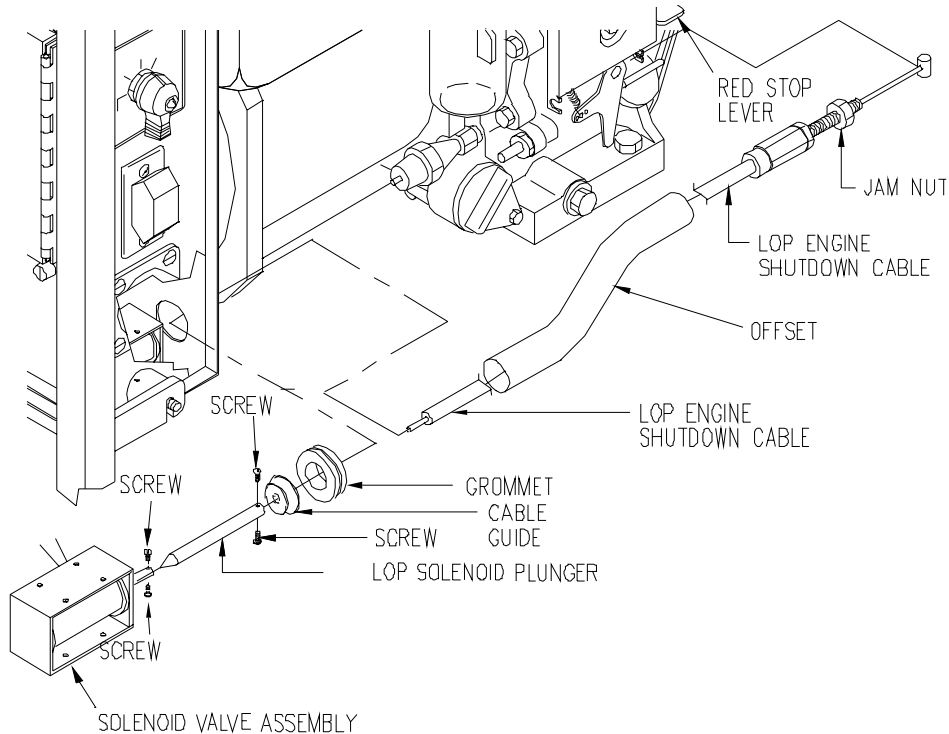
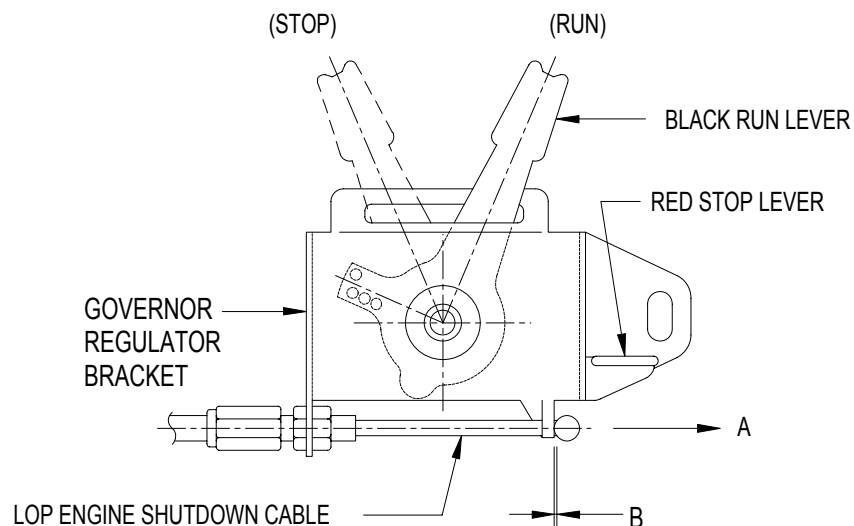
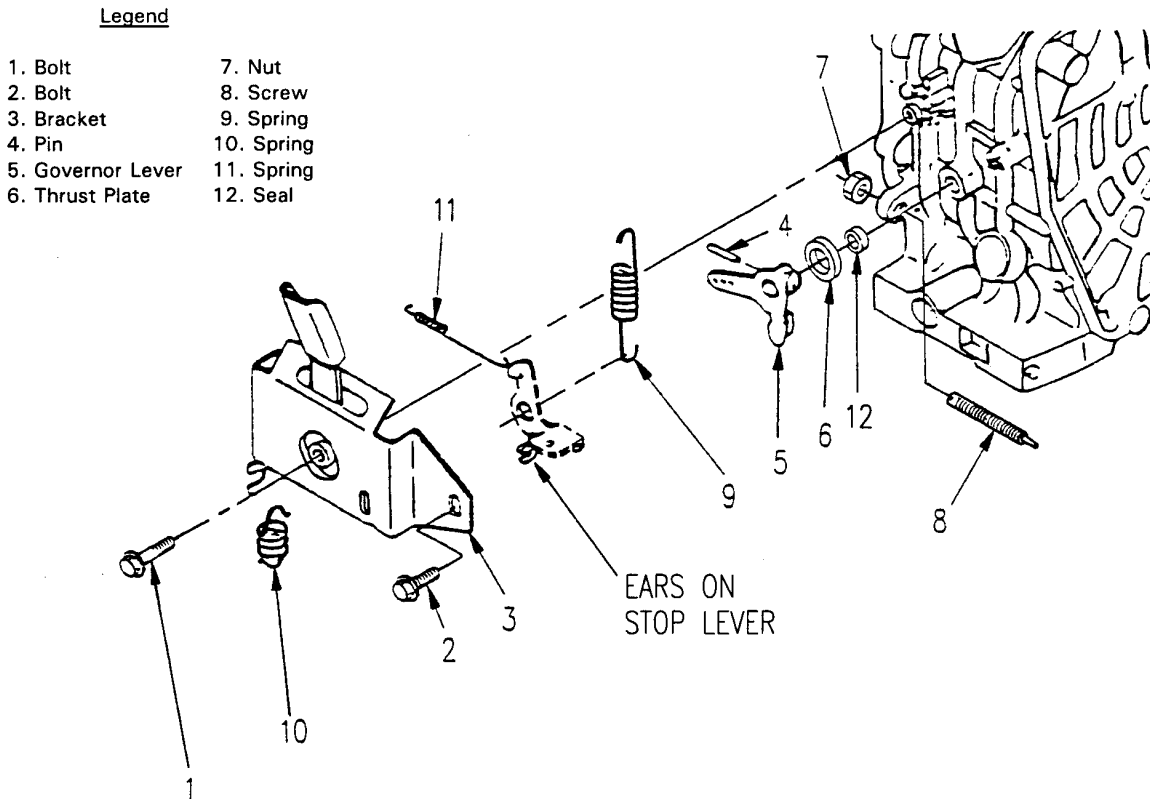
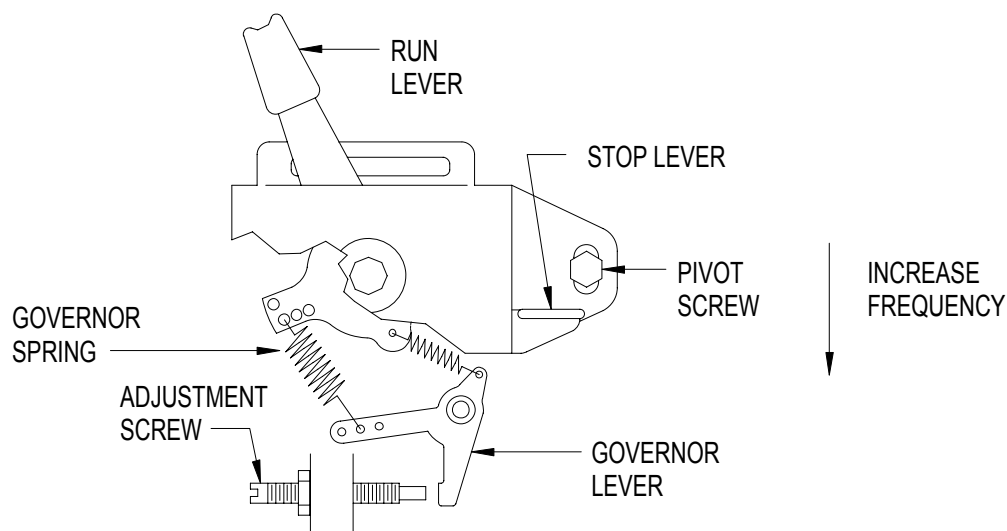

Figure 4-49. Low Oil Pressure (LOP) Engine Shutdown Cable
Figure 4-50. LOP Engine Shutdown Cable Adjustment
Figure 4-52. Governor Regulator Bracket
Figure 4-53. Governor Spring Positioning
(1) Shut down generator set.
(2) Release instrument panel by turning fastener, open instrument panel slowly.
(3) Tag and disconnect electrical leads for LOP solenoid from terminals 2 and 4 of TB1 (MEP-531A) or terminals 3 and 5 of TB1 (MEP-501A).
(4) Remove screws (Figure 4-49), lockwashers, washers, and LOP solenoid from control panel.
(5) Loosen screw(s) attaching LOP engine shutdown cable to LOP solenoid plunger.
- (1) Shut down generator set.
- (2) Cut cable ties securing LOP engine shutdown cable (Figure 4-49) to engine harness.
- (3) Using flat tip screwdriver, pry open ears on red STOP lever (Figure 4-52) and disconnect LOP engine shutdown cable from red STOP lever and governor regulator bracket (Figure 4-49).
- (4) Release instrument panel by turning fastener, open instrument panel slowly.
- (5) Pull LOP engine shutdown cable, with cable guide and LOP solenoid plunger attached, from grommet in control panel assembly.
- (6) If necessary, loosen screws and remove LOP solenoid plunger and cable guide from LOP engine shutdown cable.
- (7) If necessary, remove offset from LOP engine shutdown cable.
- (8) If necessary, remove grommet from control panel assembly.
- (1) If removed, install grommet (Figure 4-49) in control panel assembly.
- (3) If removed, install cable guide on LOP engine shutdown cable.
- (4) If removed, install LOP solenoid plunger on LOP engine shutdown cable with screws. Ensure cable is bottomed out in plunger before tightening screws.
- (5) Insert LOP engine shutdown cable through grommet ensuring that LOP solenoid plunger enters cylinder of LOP solenoid.
- (6) Seat cable guide in grommet.
- (7) Close and secure instrument panel.
- (8) Connect LOP engine shutdown cable to red STOP lever and governor regulator bracket. Pinch ears on red STOP lever to capture LOP engine shutdown cable.
- (9) Install cable ties as necessary to secure LOP engine shutdown cable to engine harness.
- (10) Check adjustment of LOP engine shutdown cable, refer to paragraph 4.50.d.
d. Adjustment. (Refer to Figure 4-50).
- (1) Place engine RUN lever to RUN position.
- (2) Pull slack from LOP engine shutdown cable in direction of arrow A.
- (3) Measure for dimension B [0-0.02 in. (0-0.5 mm)].
- (4) Pull cable from LOP solenoid and grommet. Remove LOP solenoid plunger, cut cable as necessary to achieve dimension B. Attach LOP solenoid plunger to LOP engine shutdown cable and install cable in LOP solenoid and grommet.
- (5) Return engine RUN lever to STOP position.
- (2) Using flat tip screwdriver, pry open ears on red STOP lever and disconnect LOP engine shutdown cable (Figure 4-50) from STOP lever (Figure 4-52) and regulator bracket (3).
- (3) Remove bolt (1), bolt (2), and regulator bracket (3), with STOP lever attached, from cylinder block.